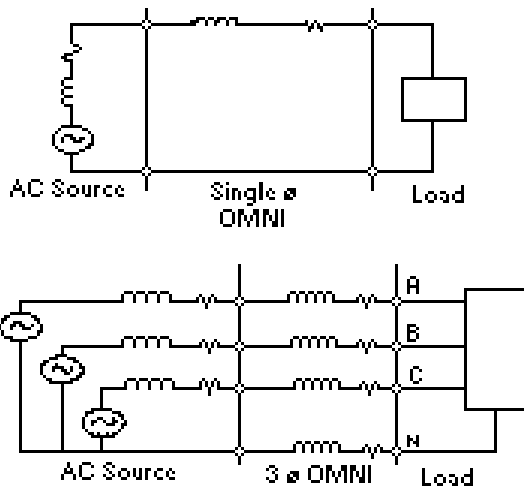

Figure 7 Single phase and three phase OMNI combinations.
- a) Use a matching impedance pad to "pad-out" the low impedance of the AC source. California Instruments produces a range of such Output Matching Network Impedances (OMNI) for many of its AC source product lines. (Fig 7)